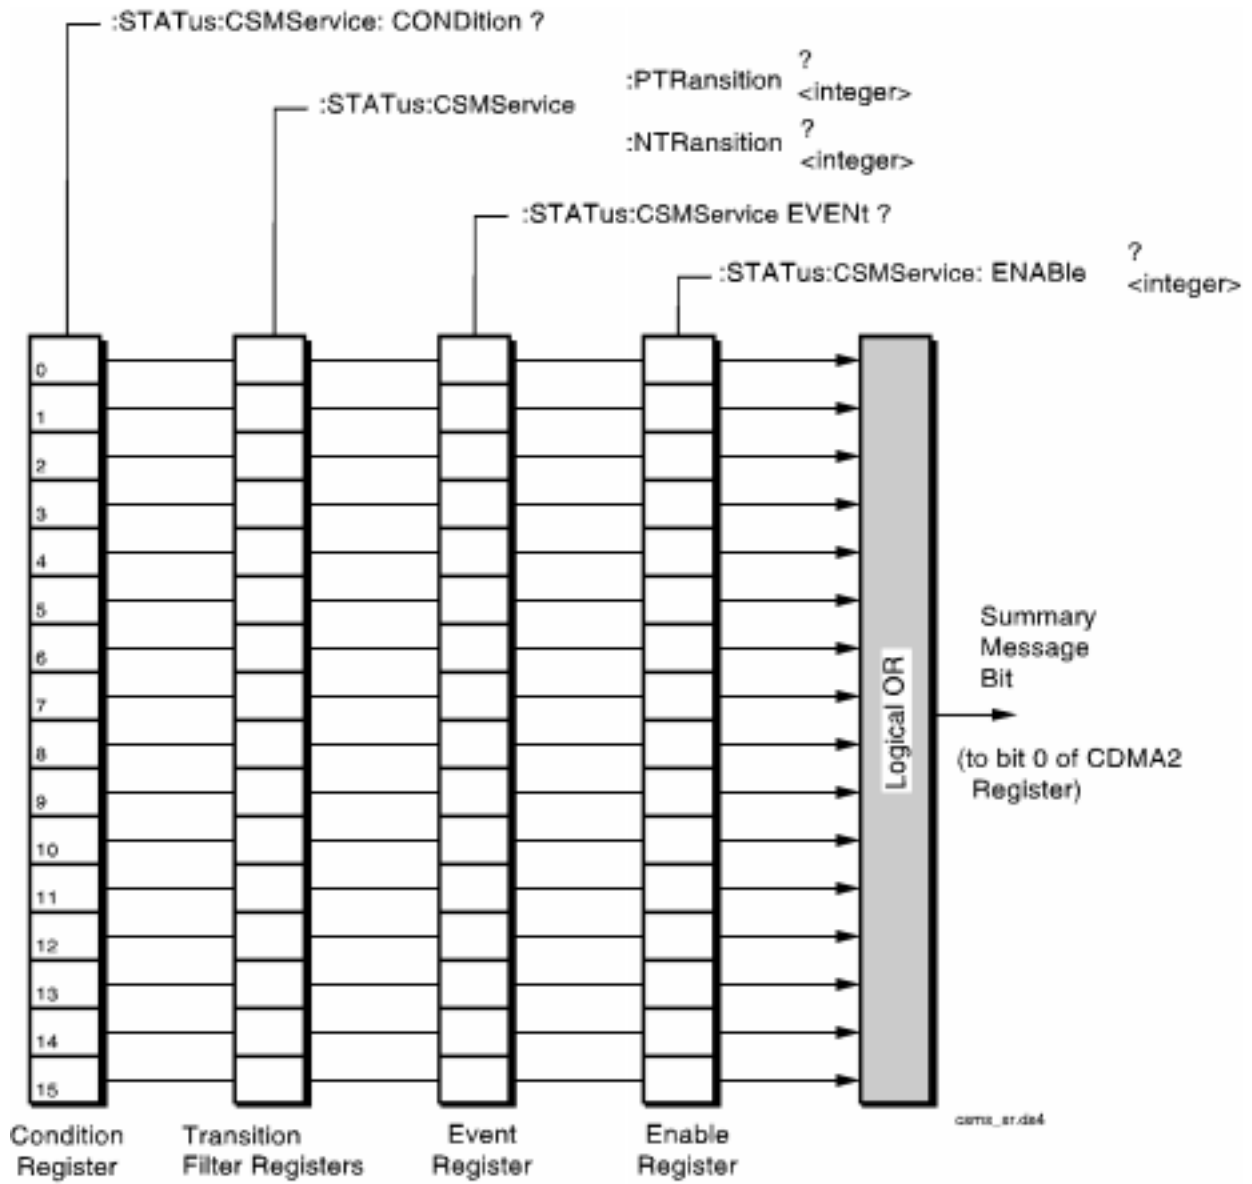

Figure 15 CDMA SMS Status Register Group
**Figure 15** shows the structure and STATUS commands for the CDMA SMS Status Register Group.
**Figure 15** shows the structure and STATUS commands for the CDMA Status Register Group.